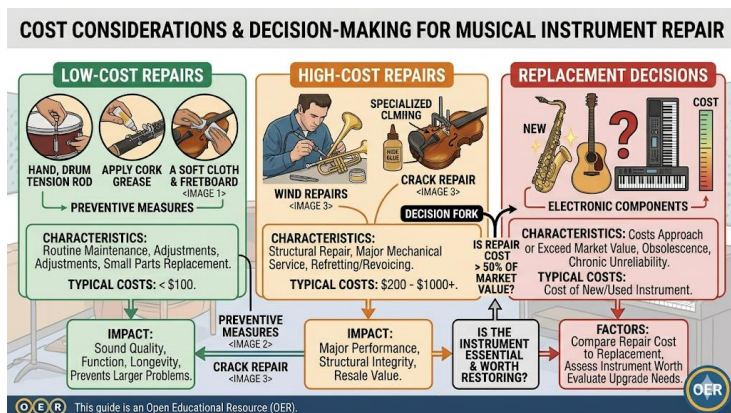

Figure 4.4 Cost considerations and budgeting for instrument repair
- Figure 4.4 Cost considerations and budgeting for instrument repair. Suggested AI prompt: “Create a diagram showing low-cost repairs, high-cost repairs, and replacement